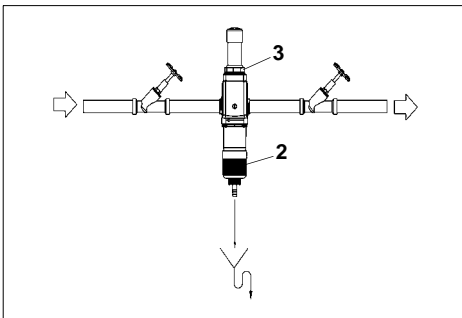

Fig. 8: Cartridge exchange II
2. Turn the handwheel for backwashing (2) counterclockwise so that the pressure remaining in the device can escape (see Fig. 8).
3. Unscrew the union nut (3) at the phosphate cartridge counterclockwise.